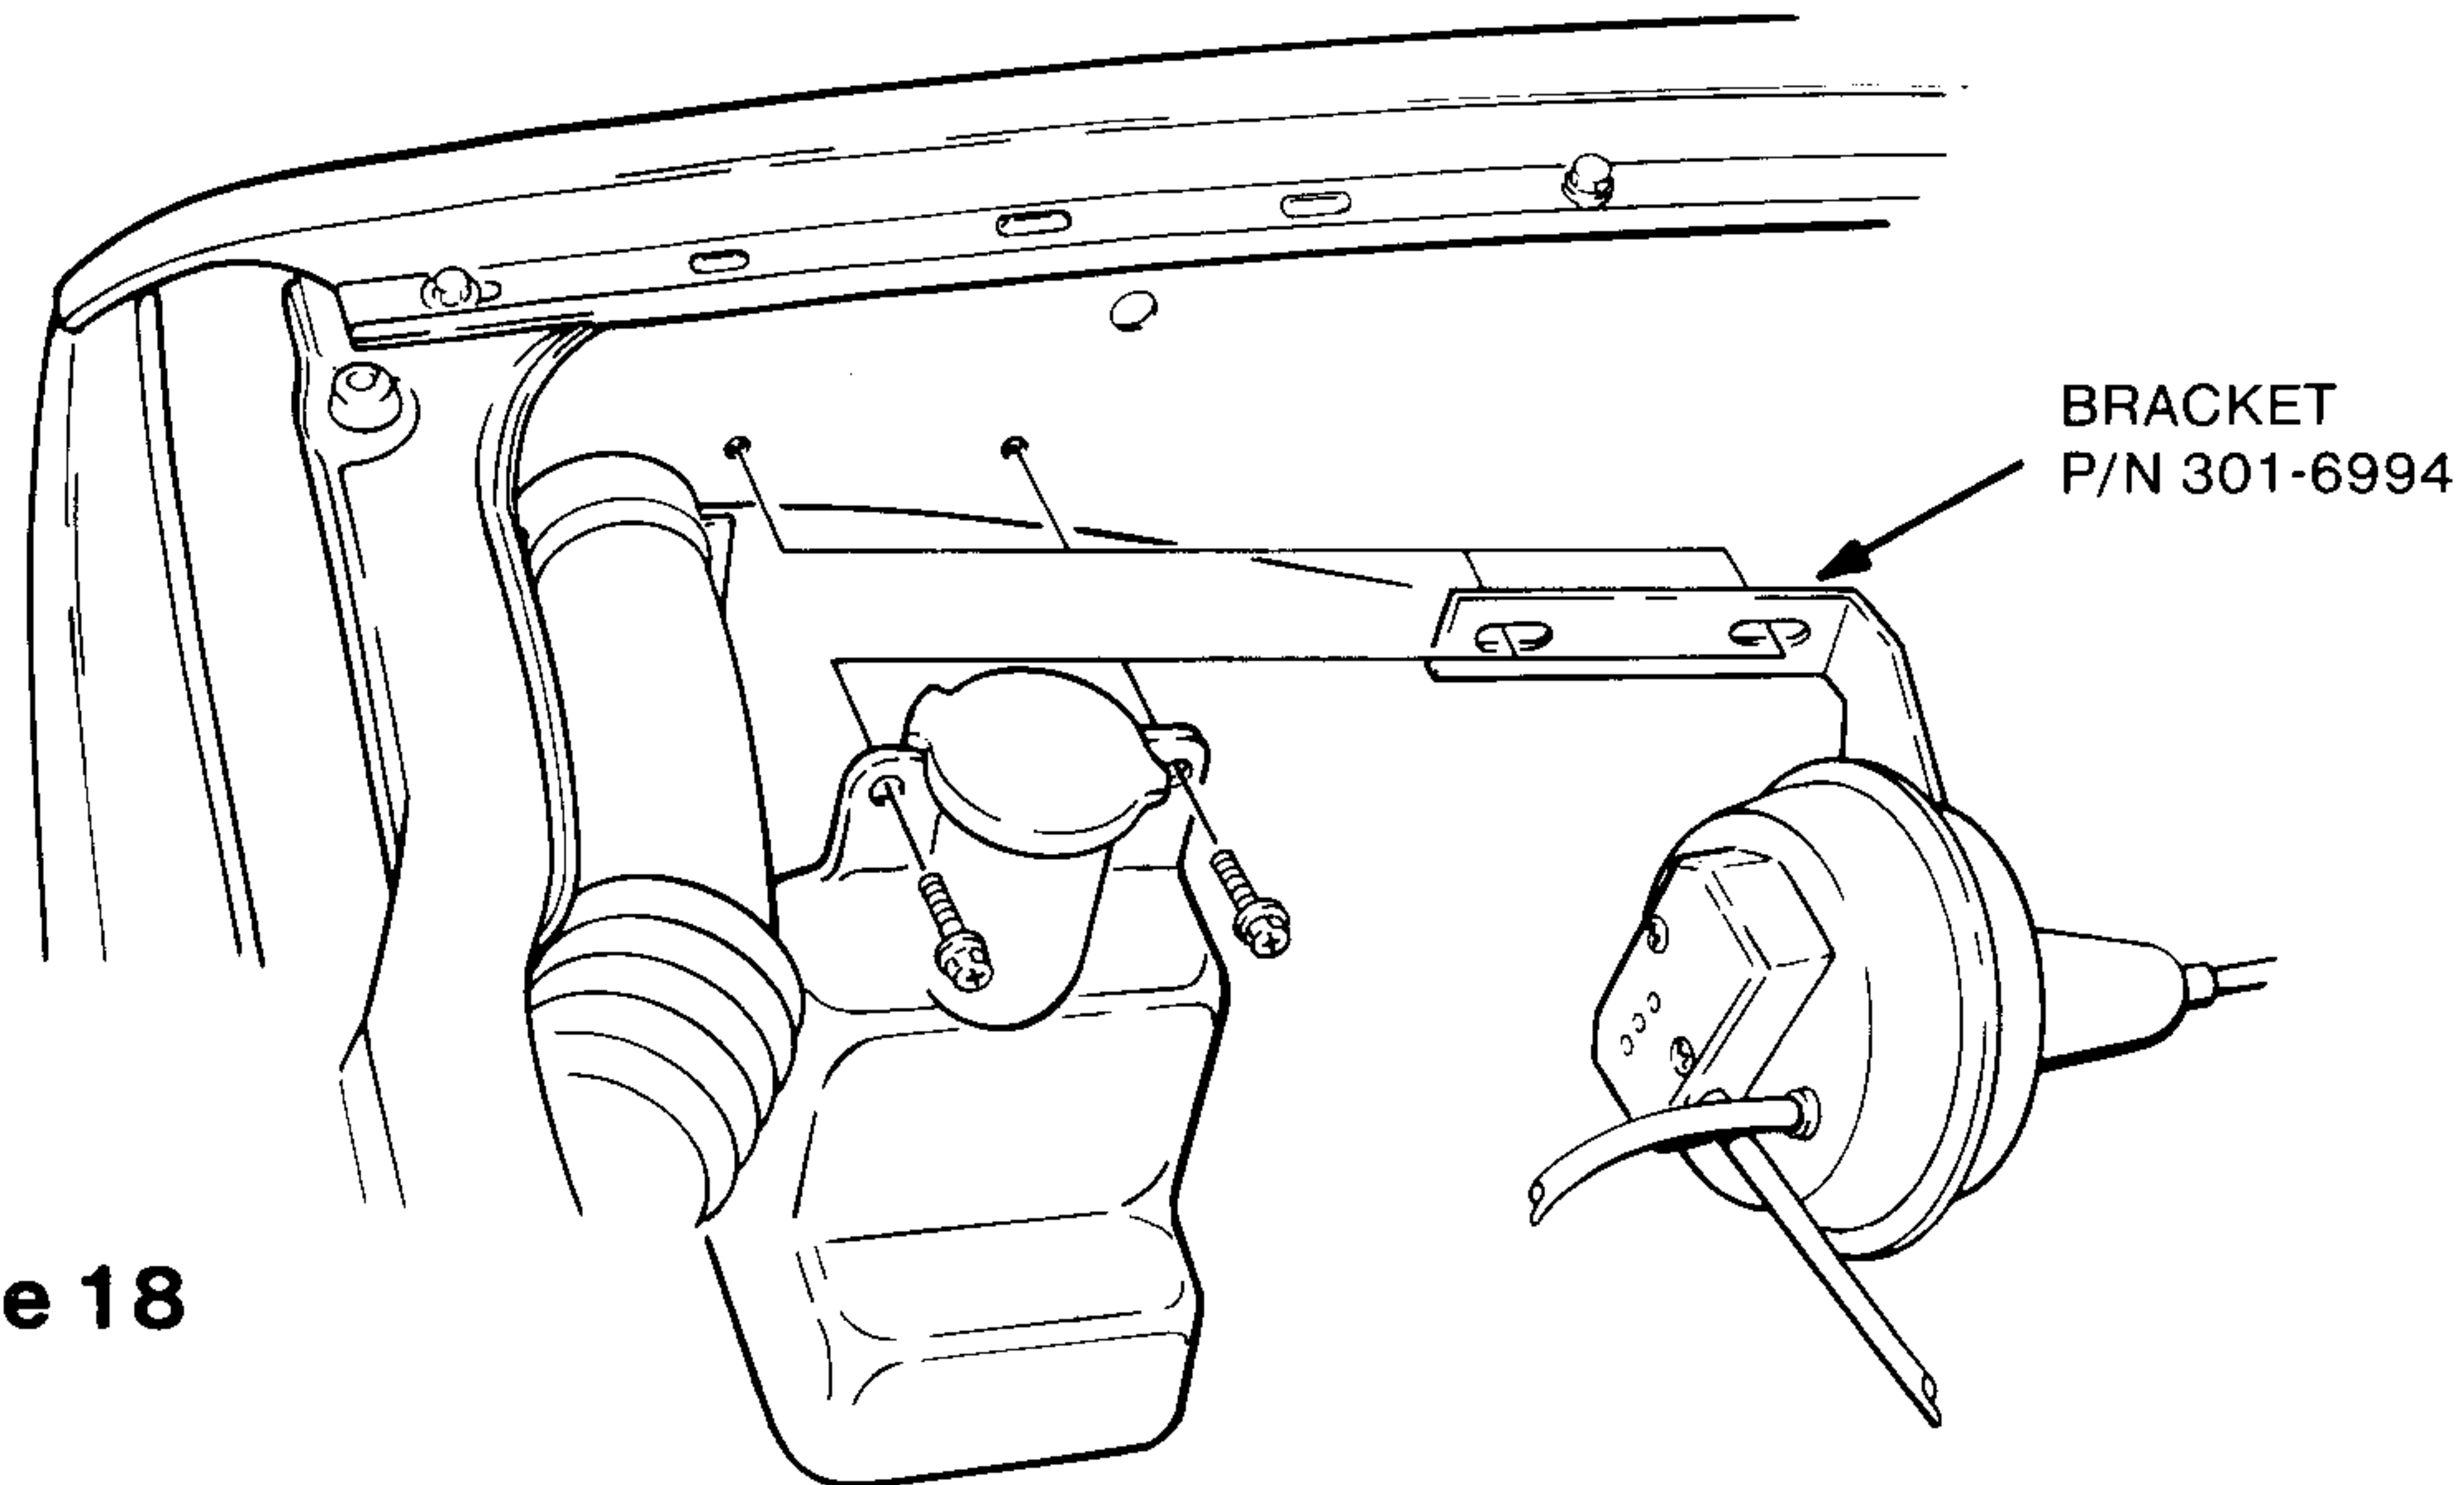

Figure 18
22. Locate the windshield washer bottle on the front of vehicle (passenger side) and remove (2) two screws as shown in **FIGURE 18**. Install the servo/valve body bracket assembly between the bottle and firewall. See **FIGURE 18**. Re-install and tighten (2) two screws.